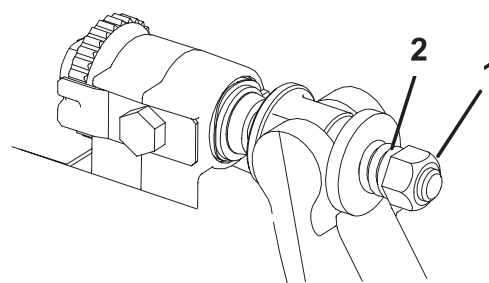

Figure 24
3. Tighten spring tension nut until spring is collapsed, then back off 1/2 turn (Fig. 24).